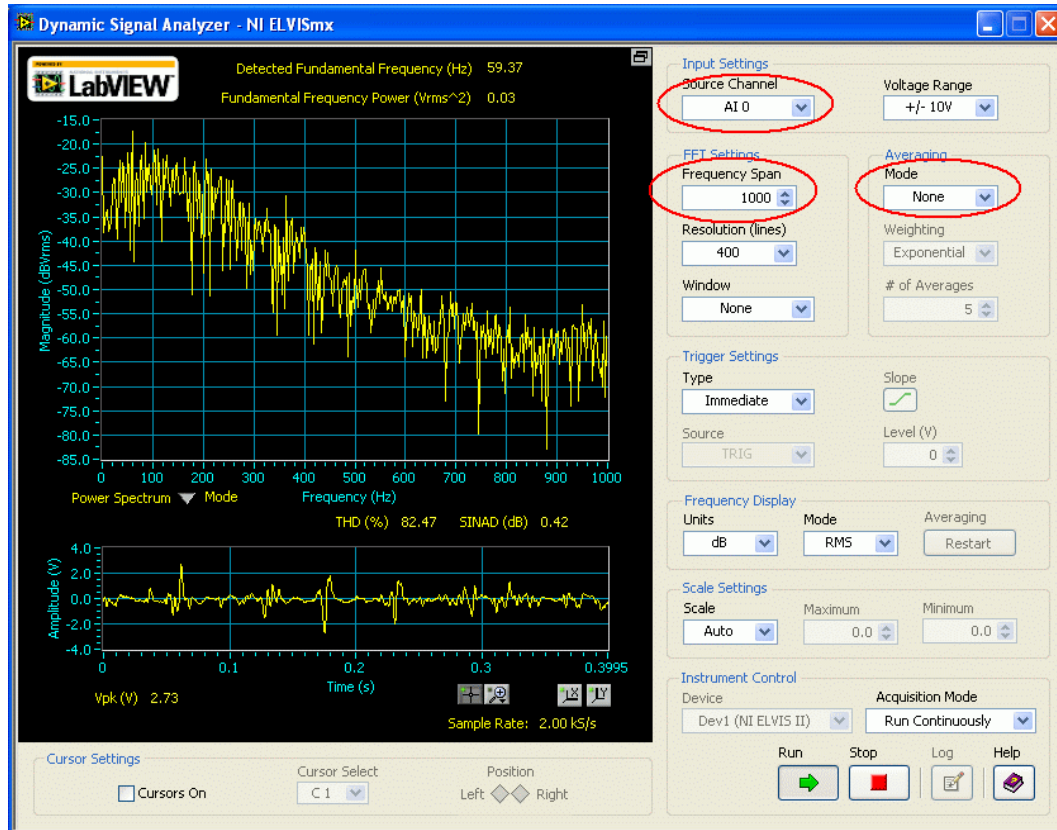

Figure 2.1: Setting up the Dynamic Signal Analyzer instrument
2. Take a screen capture, similar to Figure 2.1, of when the forearm muscles are contracted.